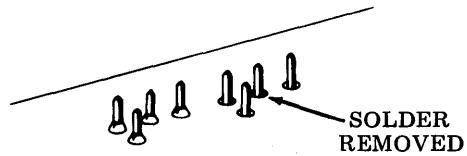

Fig. 12—Solder Removal
- Remove solder from around terminal pins of keyswitch to be removed (Fig. 12).